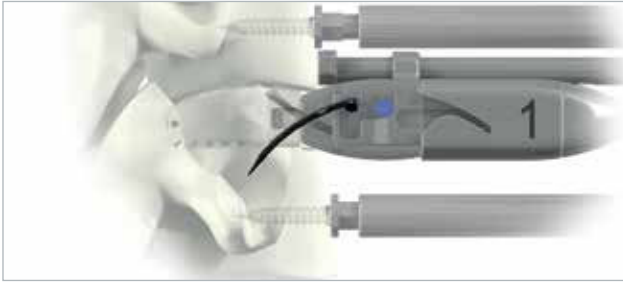

Figure 15c
- Extract the starter awl plate partially by reverse impaction on the distal end of the impaction knob. Repeat impaction until the starter awl plate is 100% within the vertebral body, indicated by a full mechanical stop from the ROI-C implant holder, as depicted above. Validate plate position radiographically and remove the starter awl plate through reverse impaction on the starter awl impactor knob. Starter awl plates are not intended for implantation and should be disposed of following use (Figure 15c).